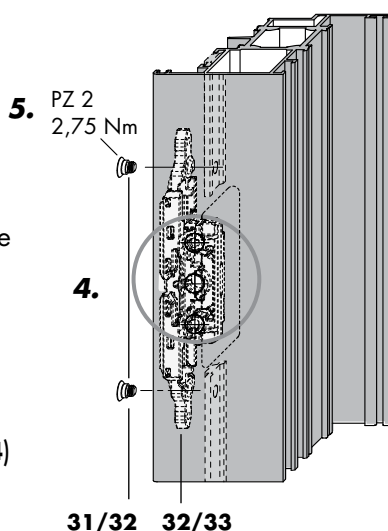

Figure 3
4. Insert the R-I DG LM M6 (pos. **32/33**) into the machined profile recess 72 x 15 (figure 3).
5. Screw-fix the R-I DG LM M6 (pos. **32/33**) with coupling screw M6 (pos. **31/32**) into the connecting rod's punched holes Ø 5.2 (PZ 2, torque 2.75 Nm ± 0.25 Nm) (figure 3).